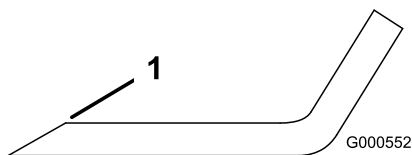

Figure 102
- Use a file to sharpen the cutting edge at both ends of the blade (Figure 102).
**Note:** If the blade is not balanced, file some metal off the end of the sail area only (Figure 102).